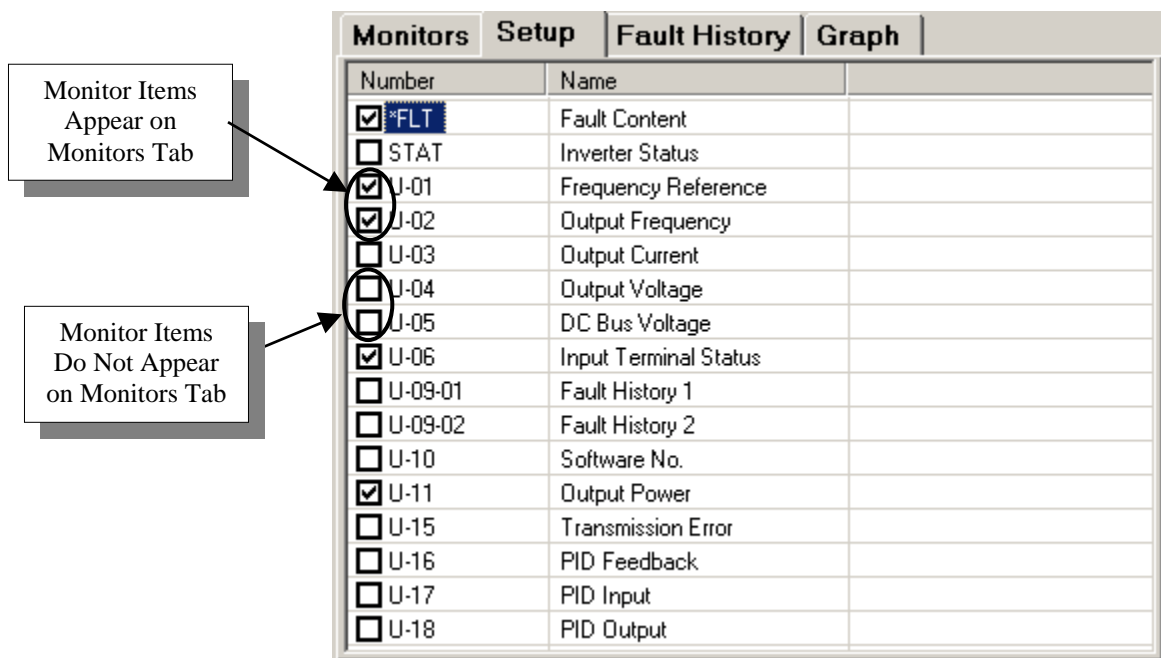

Figure 6.2: Example of Monitor Setup Window
3. In the Monitor area, click on the Setup Tab (**Setup**). Choose the parameters to watch by left-clicking once in the box next to the parameter number. All parameters with a check in their box () will be displayed under the Monitors Tab. To unselect a parameter, simply left-click again and remove the check from the box () next to it (see figure 6.2)